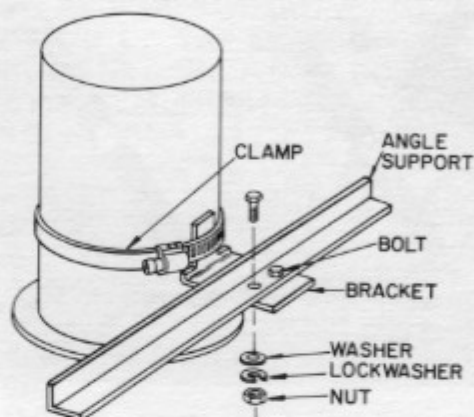

Figure 32
2. Install a motor bracket "C" on the underside of each deck-mounted angle support so that their tabs are flush with their motor's sides and directed upwards as shown in Figure 32. Secure with 1/4-20 x 3/4 inch bolts inserted from the top side with a washer, lockwasher and nut below each support. Finger tighten each nut.
3. Install a motor clamp around each motor so that it engages its corresponding bracket tab. See Figure 32. While holding the clamp parallel with the mower deck, tighten the clamp screw. Locate the screw toward the angle support to be inconspicuous when the mower is assembled to tractor. After the clamps are tightened, tighten the nuts holding the motor brackets to the angle supports.